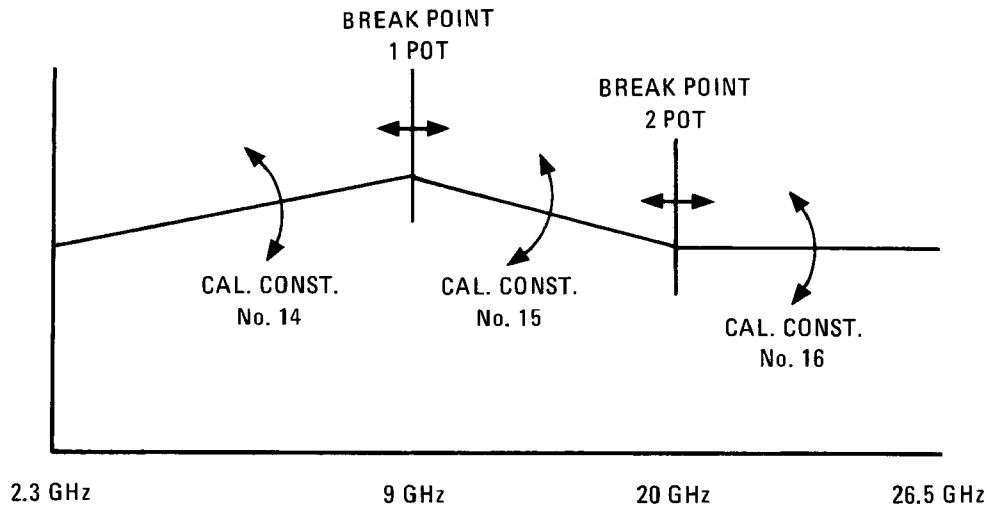

Figure 5-61. Relationship of Flatness Adjustments Diagram.
27. Refer to Figure 5-61 and make adjustments as follows: